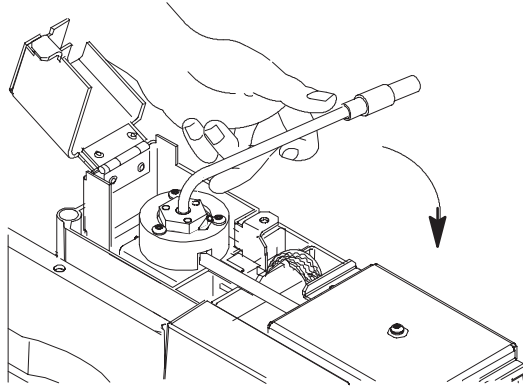

Figure 7 Bending the bead assembly cable
- 6** Carefully bend the bead assembly cable 90 degrees (Figure 7). You should support the cable as shown here.